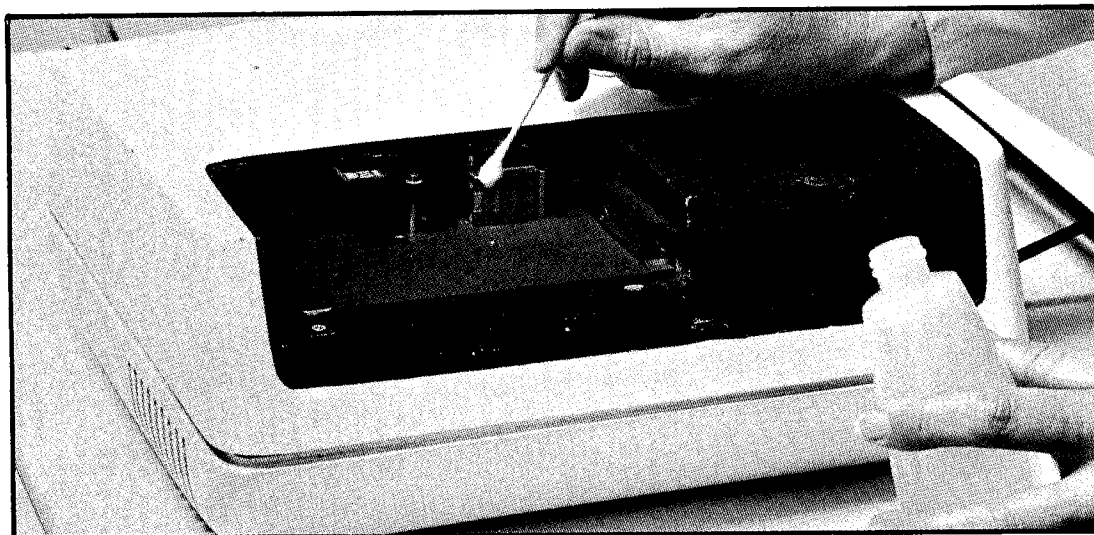

Figure 37. Cleaning head surfaces
4. Clean head surfaces, including the erase head surface. Use a dry, clean, lint-free cloth to remove all cleaner residue and thoroughly dry surfaces (Figure 37).